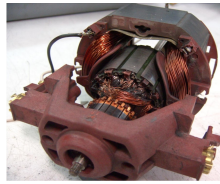

**Figure 3** Field shift due to armature reaction in a DC motor
**Figure 3** shows the shift in the main field for a **DC motor**. For the same direction of rotation, the shift is in the opposite direction to that of the generator (i.e. against the rotation of the armature).